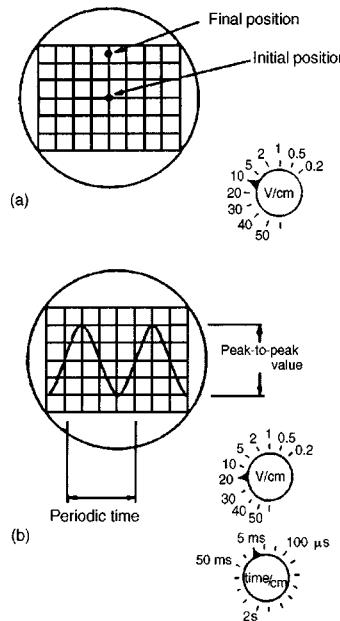

Figure 10.15
- (i) With **direct voltage measurements**, only the Y amplifier ‘volts/cm’ switch on the oscilloscope is used. With no voltage applied to the Y plates the position of the spot trace on the screen is noted. When a direct voltage is applied to the Y plates the new position of the spot trace is an indication of the magnitude of the voltage. For example, in Fig. 10.15(a), with no voltage applied to the Y plates, the spot trace is in the centre of the screen (initial position) and then the spot trace moves 2.5 cm to the final position shown, on application of a d.c. voltage. With the ‘volts/cm’ switch on 10 volts/cm the magnitude of the direct voltage is  $2.5 \text{ cm} \times 10 \text{ volts/cm}$ , i.e. 25 volts.
- (ii) With **alternating voltage measurements**, let a sinusoidal waveform be displayed on an oscilloscope screen as shown in Fig. 10.15(b). If the time/cm switch is on, say, 5 ms/cm